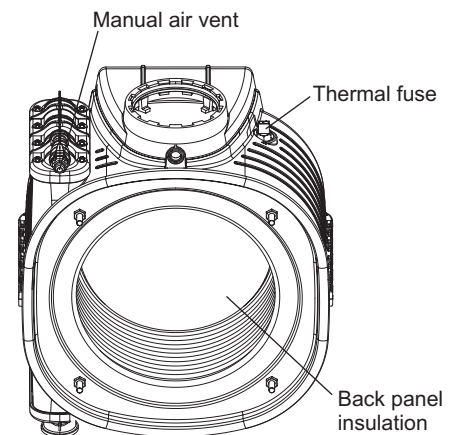

Fig. 33
Back panel insulation - Fig. 33
7.18 HEAT EXCHANGER THERMAL FUSE - Fig. 33